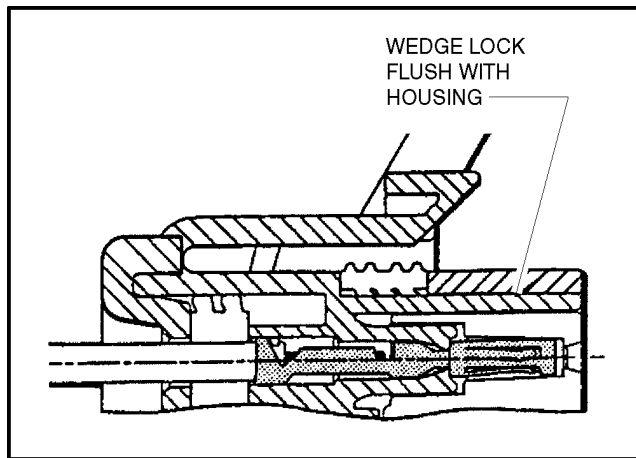

Figure 7-9. Connector Assembly Figure 4
- 4. Slide the wedge lock into the housing until it is flush with the housing (See Figure 7-9.).